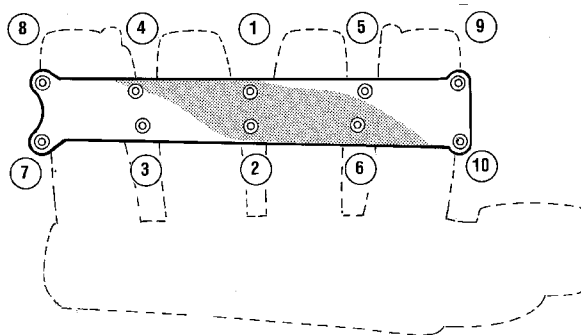

Fig. 27 Intake Manifold Tightening Sequence
- (1) Install intake manifold onto cylinder head and tighten fasteners to 28 N·m (250 in. lbs.) in sequence shown in (Fig. 27).